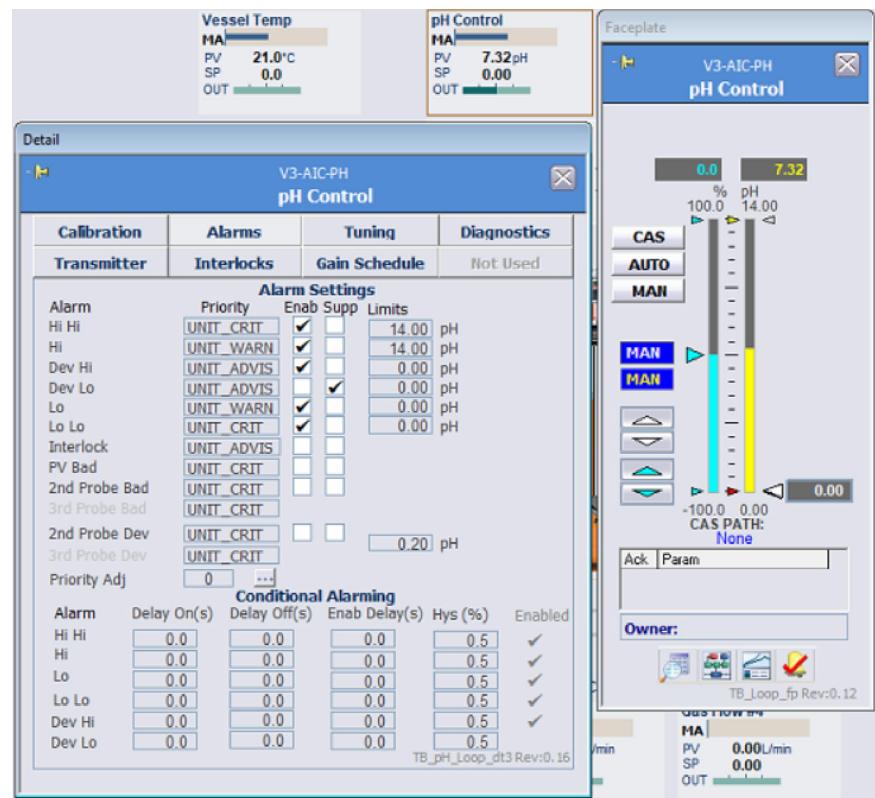

Figure 4.2. Alarm settings screen for pH control.
- The Deadband is the area around the setpoint over which the pH or DO process value (PV) will normally fluctuate, and within which no alarms are set. Setting up a deadband allows these normal fluctuations to resolve without triggering the control loops.
- To set control limits and alarms for any parameter, open the faceplate for that parameter, click **Detail**, and then select the **Alarms** tab. Figure 4.2 shows the alarm settings for pH control, as an example.